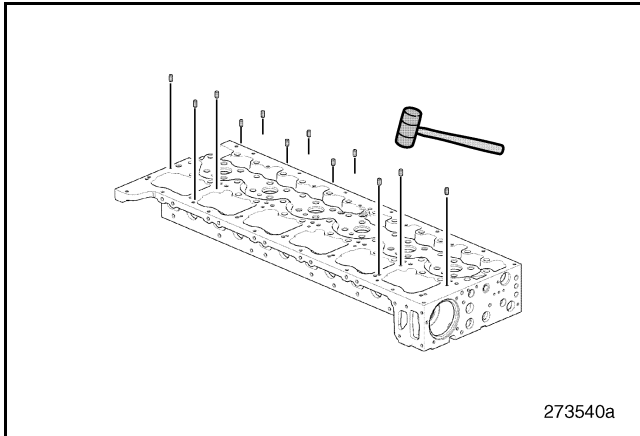

Figure 433 — Locating Pin Installation
4. Install 12 **new** locating pins from the parts kit at the cylinder head locations illustrated (Figure 433). Use a plastic mallet so as not to damage the locating pins.